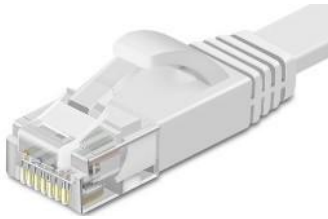

Fig. 19
1. The MOPA comes with an ethernet cable(see Fig. 19).